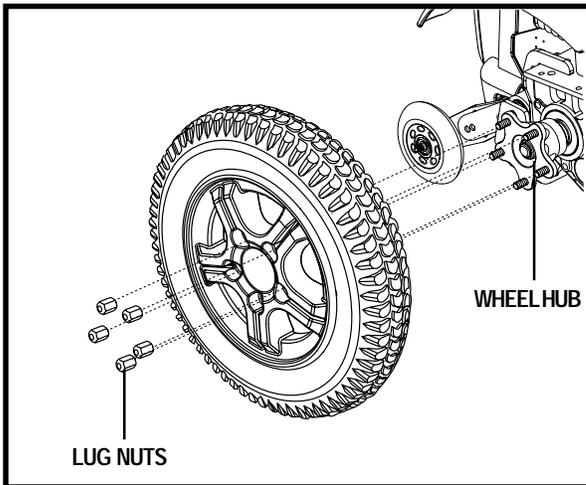

Figure 22. The R-4000 Series Drive Wheel
4. Remove the five (5) lug nuts from the wheel hub. See figure 22.